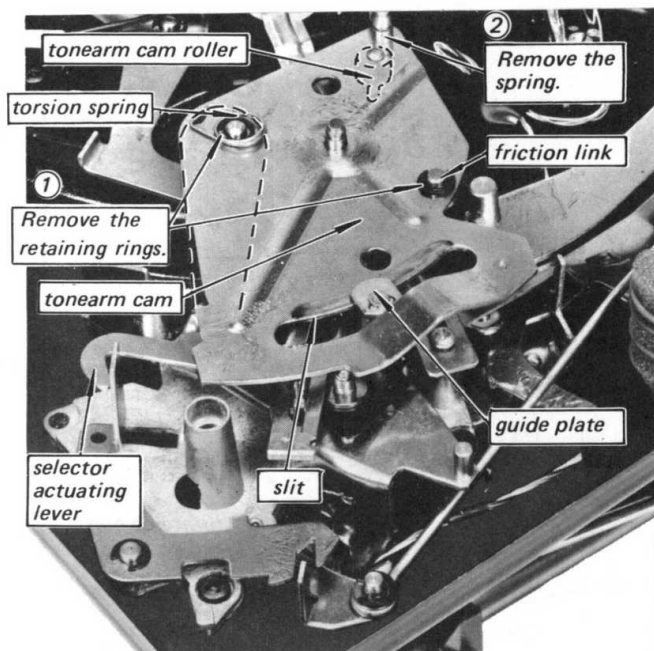
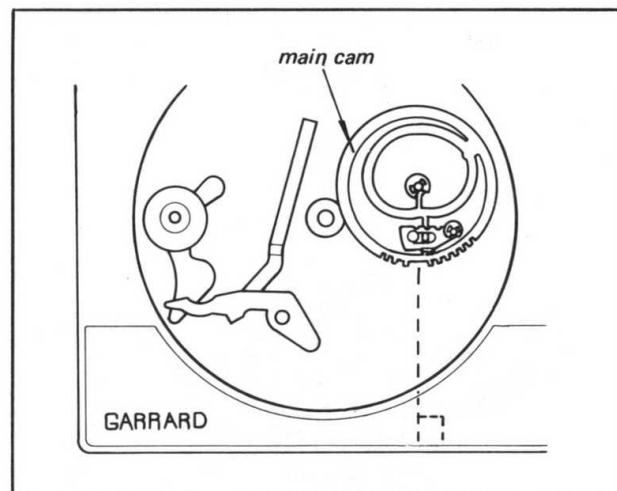

Fig. 1-9. Tonearm cam replacement (1)
Fig. 1-11. Tonearm cam reinstallation
1. Turn the turntable clockwise by hand so that the guide plate is located at the center of long slit of tonearm cam as shown in Fig. 1-9.
2. See Fig. 1-9 ( ① ~ ② ).
**Note:** When refitting the tonearm cam, first attach the friction link to the cam with the retaining ring then with the selector actuating lever held in position shown in Fig. 1-9, locate the tonearm cam roller in the turntable base slot and main cam track, before locating it under its guide plate and on its pivot pin. At the same time, the main cam should come to the position shown in Fig. 1-11.